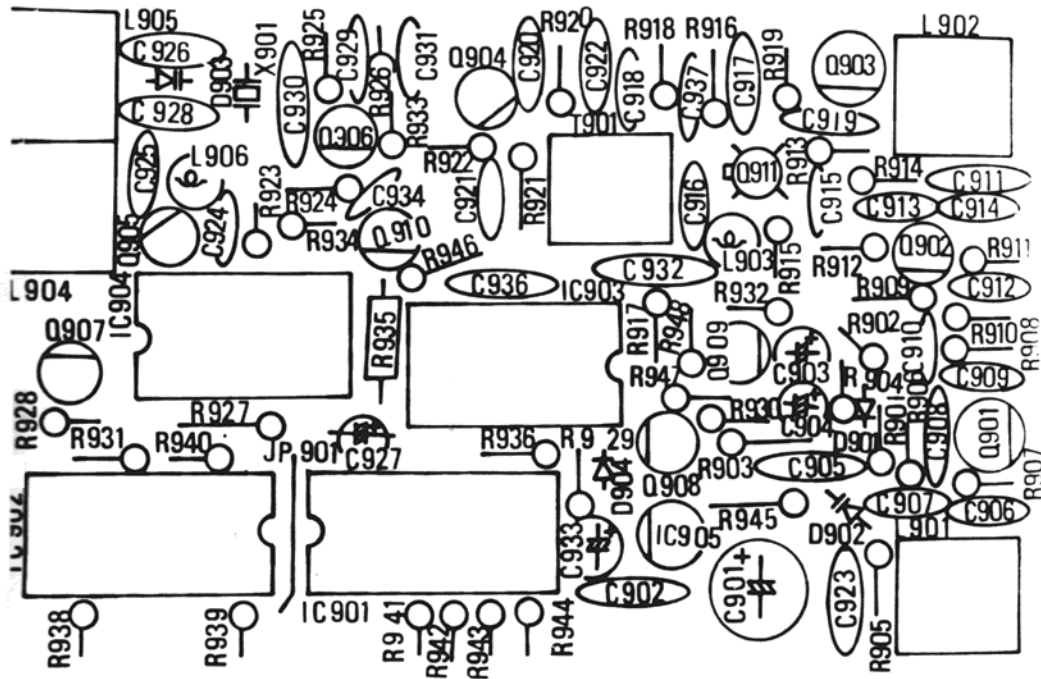

Fig. 19 — Parts Location, SBE Chassis
2. Remove R03 (1K). (See Fig. 19)